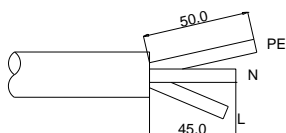

FIG. 7-3 Adjust the Cable Length
- 1) Strip the cable's jacket, and then adjust the relative length of L, N and PE cables, to make the length of PE cable is at least 5mm longer than L and N ones, as per FIG. 7-3.